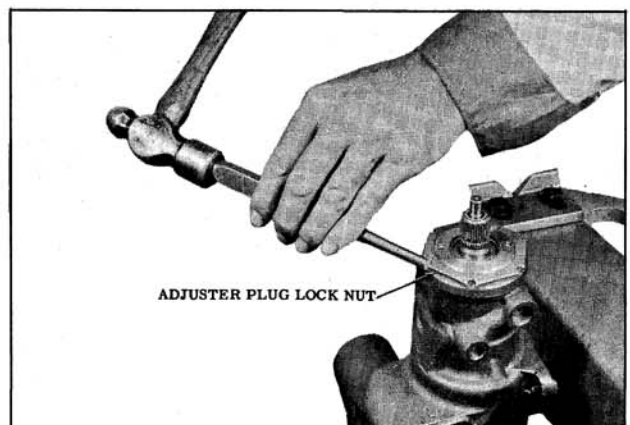

Fig. 8-46 Loosening Locknut
- a. Loosen the adjuster plug locknut with punch. (Fig. 8-46)